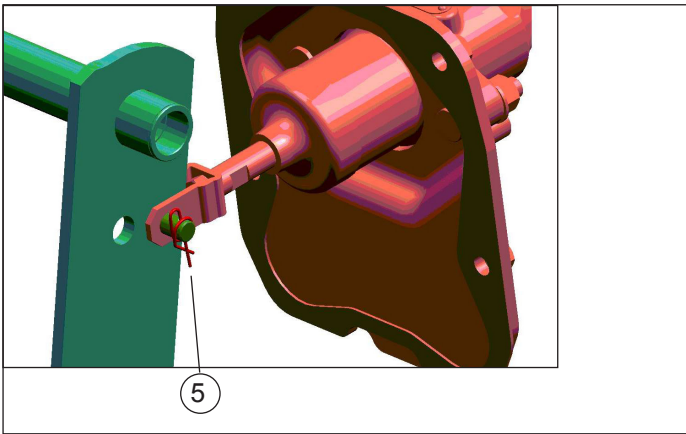
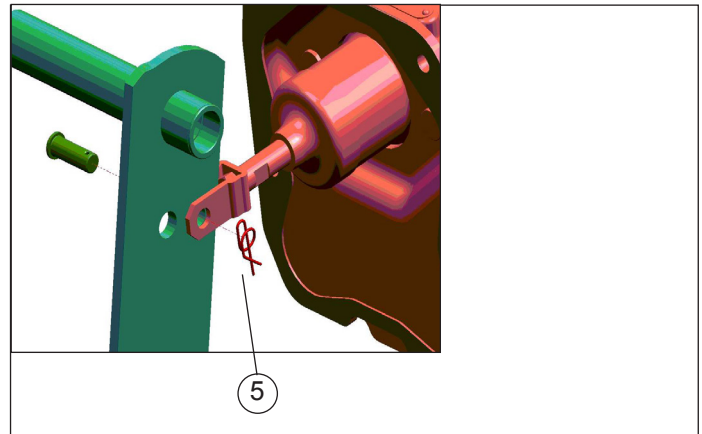

Figure 4 – Rue™ Ring
Figure 5 – Rue Ring Installation
7. Remove the cotter pin or Rue™ ring (5) that secures the yoke pin (4) to the brake pedal yoke. *Refer to Figure 4.* Remove the yoke pin (4) and, for air-braked vehicles, remove the wave washer (6).
8. Hydraulic vehicles with a Hydromax® brake system contain a brake switch that the yoke pin (4) passes through. The electrical connector does not need to be disconnected. If the brake pedal (3) is being replaced, remove the wire harness clip from the top of the brake pedal (3).
1. If replacing the brake pedal (3), position the brake pedal (3) into the driver control pedestal opening. Insert the yoke pin (4) from the driver's side of the vehicle. For air-braked vehicles, attach the wave washer (6) to the yoke pin (4) prior to installation. Note that the yoke pin (4) head may contain two flats—or reliefs—to facilitate the installation. While holding the brake switch in place (if applicable) use a hammer and punch to gently tap the yoke pin (4) through the aligned holes.
2. For hydraulic vehicles with the Hydromax brake system, slide the brake switch into place, straddling the left side of the brake pedal (3) yoke, depressing the switch spring. This will allow the yoke pin (4) holes in the yoke and brake pedal (3) switch to align.
3. Reinstall the cotter pin in the yoke pin (4) hole (if applicable), bending the ends back to approximately 45°. For vehicles using a Rue ring (5), install the Rue ring (5) into the yoke pin (4). Refer to Figure 5. Lock the Rue ring (5) by placing the angled pin under the straight pin as shown in Figure 4.
4. If the brake pedal (3) was replaced, install the wire harness clip into the hole at the top of the brake pedal (3), if applicable.
2. For hydraulic vehicles with the Hydromax® brake system, slide the brake switch into place, straddling the left side of the brake pedal (3) yoke, depressing the switch spring. This will allow the yoke pin (4) holes in the yoke and brake pedal (3) switch to align.
3. Reinstall the cotter pin in the yoke pin (4) hole, if applicable, bending the ends back to approximately 45°. For vehicles using a Rue™ ring (5), install the Rue ring (5) into the yoke pin (4) as shown in Figure 5. Lock the Rue ring (5) by placing the angled pin under the straight pin as shown in Figure 4.
4. Place the brake pedal (3) into position. From the passenger side of the pedestal, insert the clutch shaft through the pedestal and through the brake pedal (3) tube.
5. Secure the brake pedal (3) and shaft to the pedestal using the 3/8" flange screws (8). Tighten to 220–255 in-lbs.